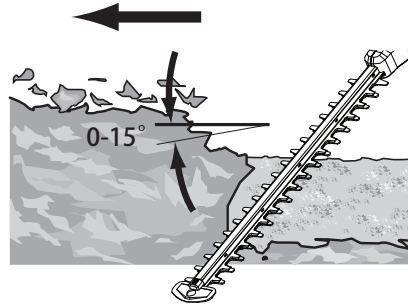

Fig. 14
9. After cutting the sides proceed to the top. Try to keep the cutting device angled at approximately 15° to the cutting surface (Fig. 14).